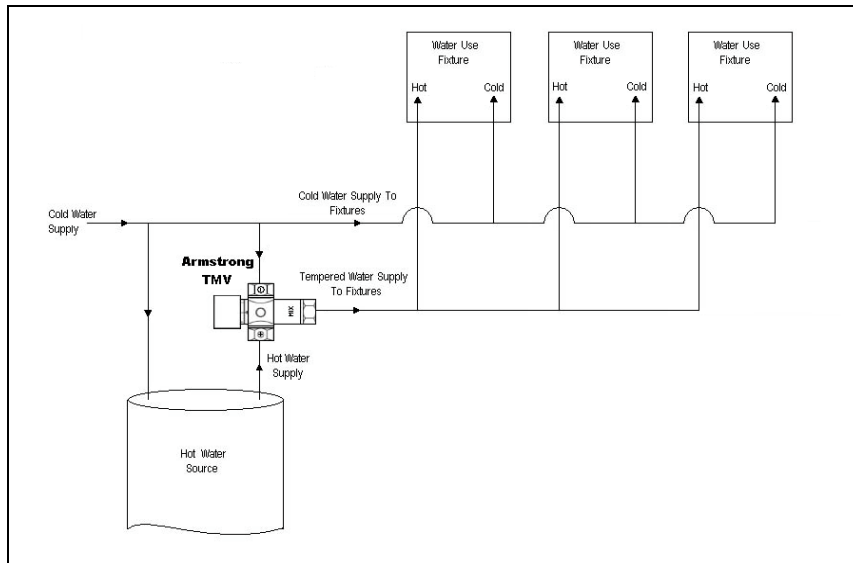

Fig. 1 Typical Domestic Hot Water Installation without Recirculation
- For typical domestic hot water installations refer to Figures 1 and 2 below.